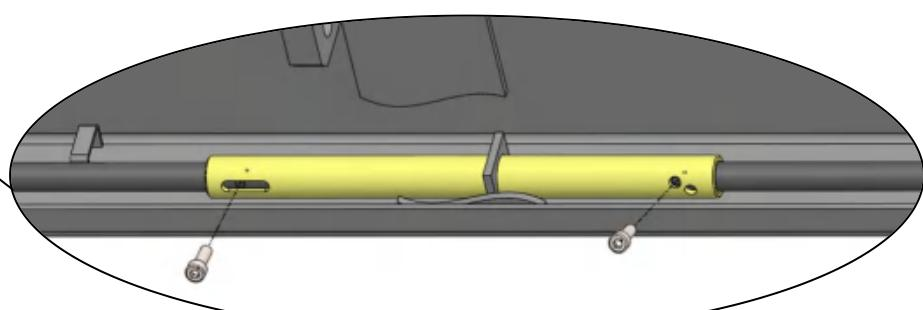

Fig. 24
2.1, Coupling sleeve installation illustration when power side column is in the position as shown below. See fig 24.
① Pass the coupling sleeve through retaining plate, then put the safety device connecting rod into it.